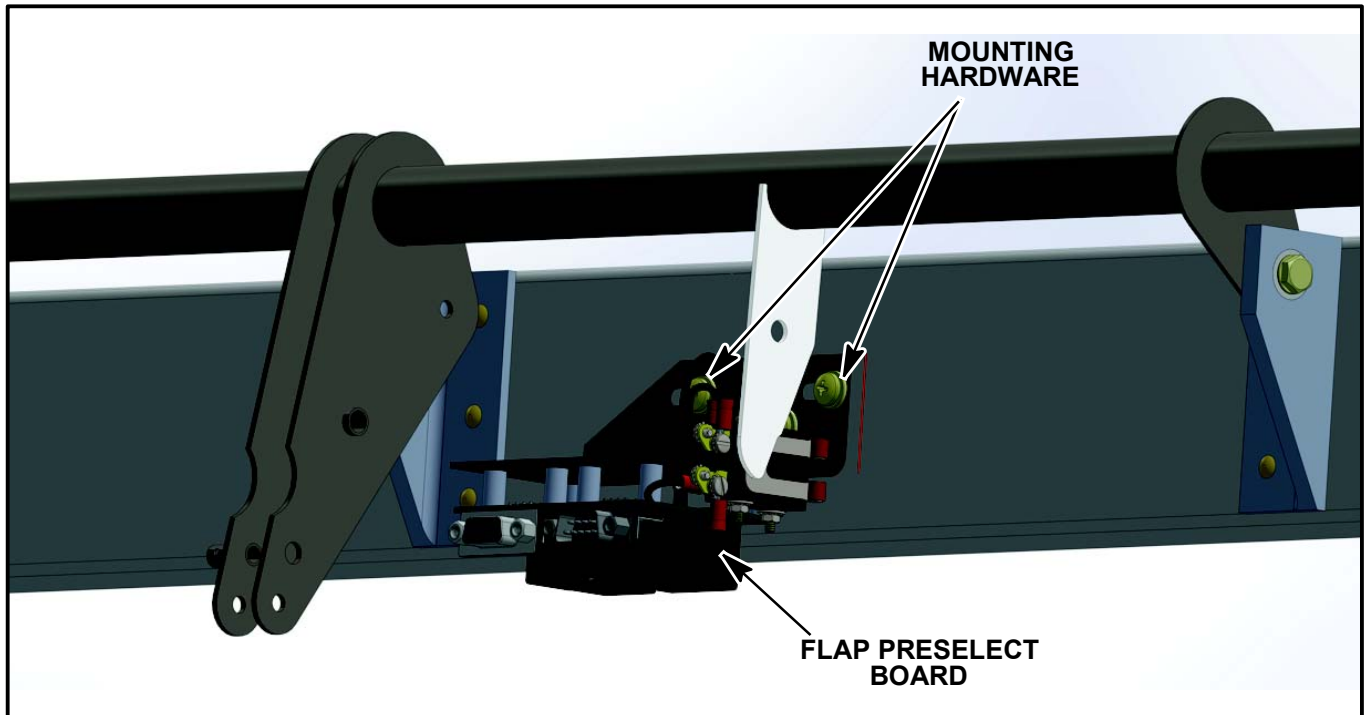

Figure SIM20-142-16 - INSTALL FLAP PRESELECT BOARD
- 1.17. Re-install flap preselect board with the screws, washers, nuts that were removed from aircraft, do not fully tighten. (Refer to Figure SIM20-142-16.)